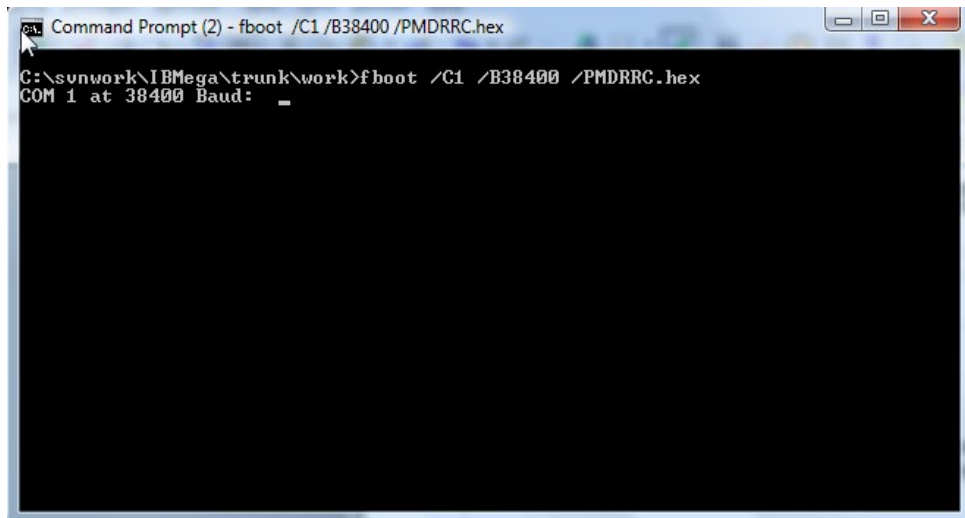

Figure 6: Boot loader start screen
- The tool starts and will try to find the Atmel micro controller, see Figure 6.